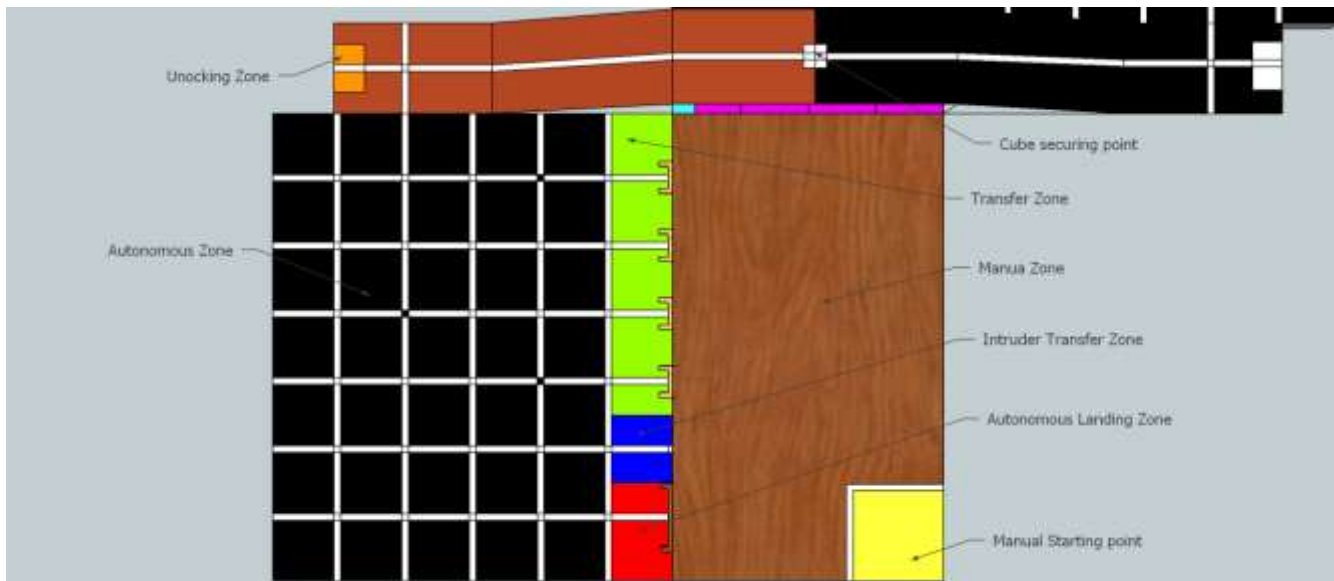

Figure 2: Coloured arena for description
13. Every time any part of the manual bot crosses the first white line adjacent to the transfer zone (first vertical white line from right side in figure 2) and it incurs a penalty of 25 points.